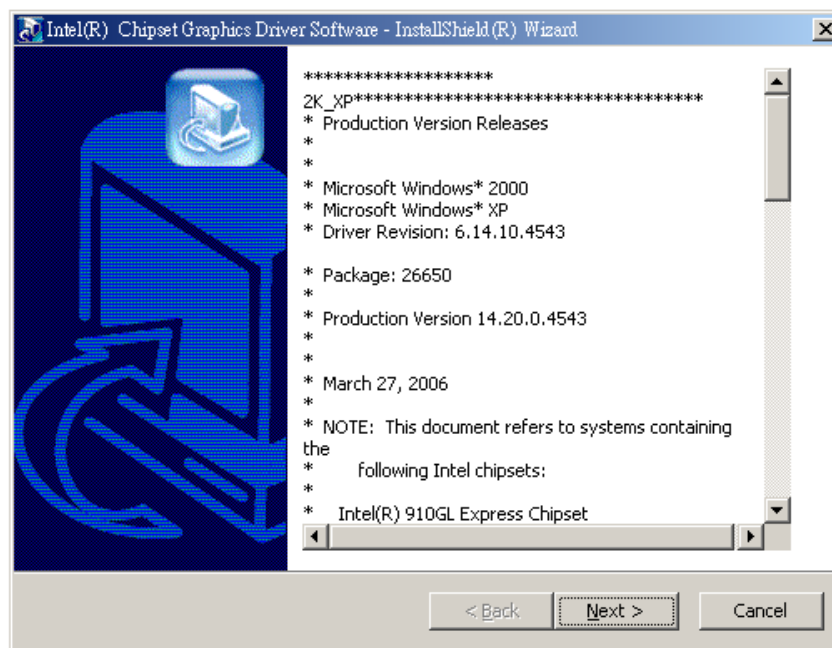

Figure 7-6: Starting Install Shield Wizard Screen
Step 3: The Starting Install Shield Wizard appears (**Figure 7-6**).